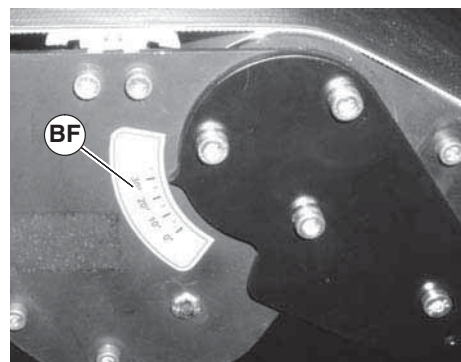

Figure 42
3. Move conveyor to desired angle as indicated by angle label (Figure 42, item BF).